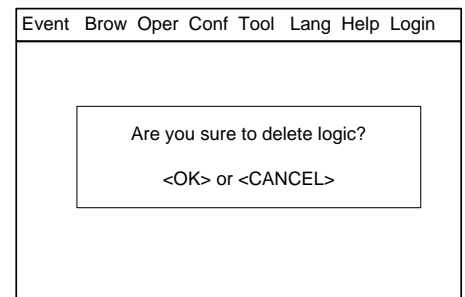

Fig.25-5
4. After editing, press "menu" (Figure 25-5), choose "Confirm", and then press "OK" to begin system compiling. If successful, it will display "Logic relations compiled successfully". If not successful, display will indicate error information. If you don't want to save this change, select "Cancel", and press "OK" to quit.
6. If you select "Delete Logic" in step 3, the system will pop out a remind window (Fig.25-5). Press "OK" to delete the interlock or press "C" to give up.